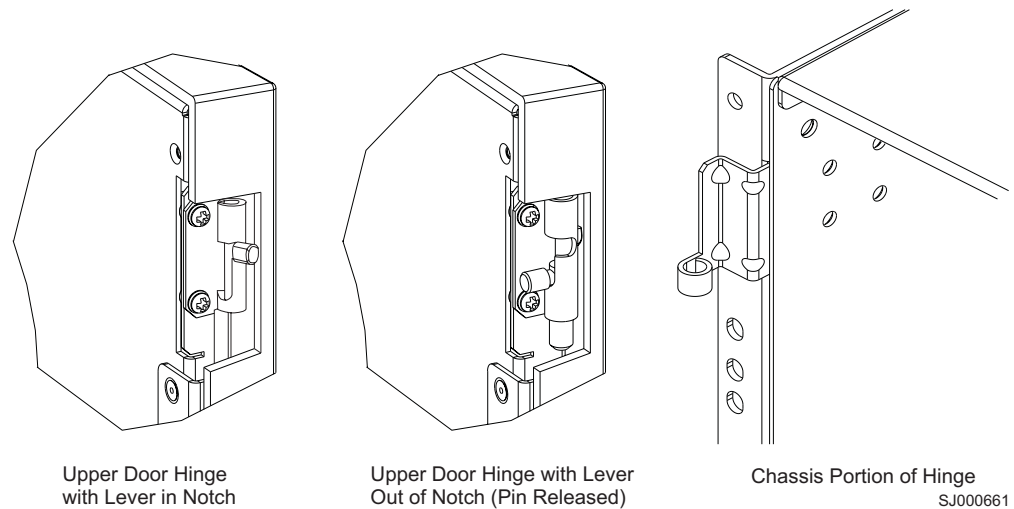

Figure 32. Reinstalling the chassis door
21. Reinstall the door after you put the chassis in place. See Figure 32 on page 45.